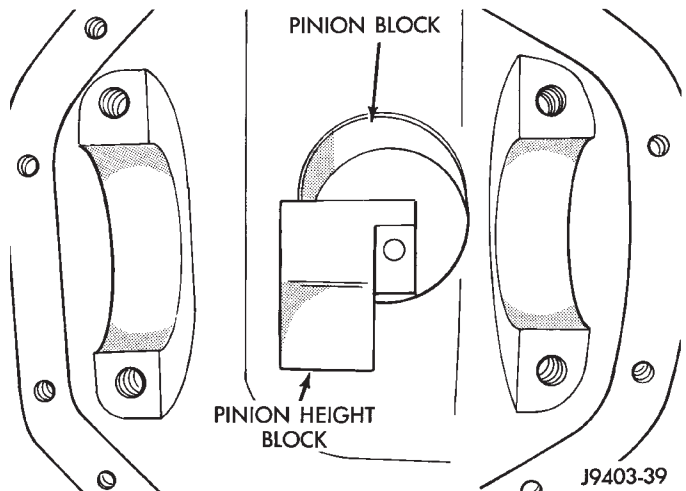

Fig. 46 Pinion Height Block
(1) Assemble Pinion Gauge Set, Pinion Block and pinion bearings. Install assembly into differential pinion gear bore and hand tighten cone (Fig. 46).